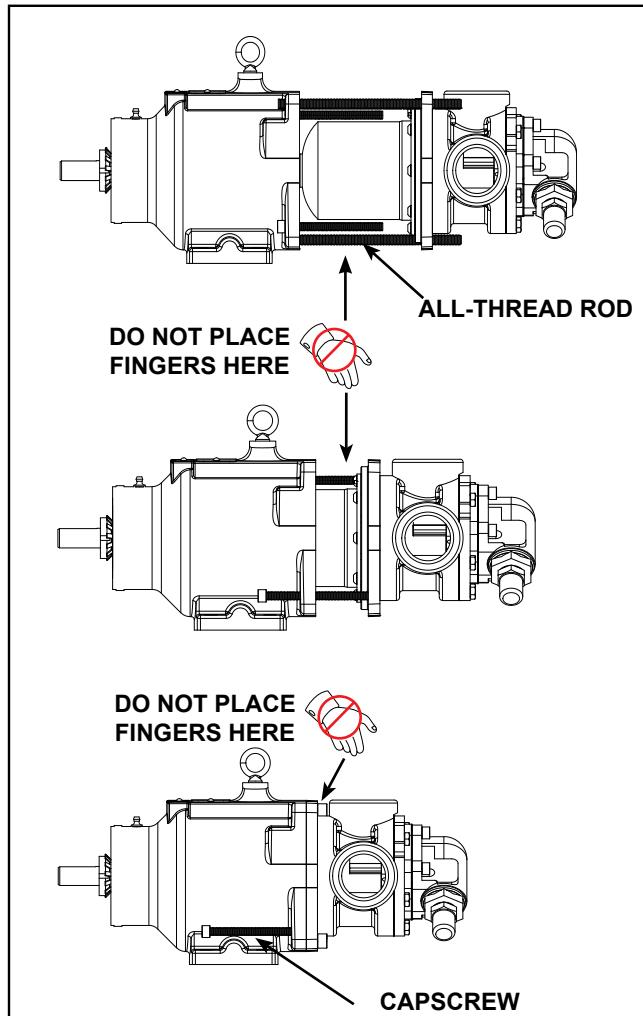

FIGURE 13
Do not place fingers onto the front of pump mounting flange. Align the canister into bore of the bracket and gently slide it in. When the magnets start to engage, the unit will finish engagement on its own very rapidly unless the 5/16" x 4" capscrew is properly used. Make sure fingers are not on the front of the pump. See Sequence in Figure 13.
15. Insert two fully threaded 5/16" X 4" socket head capscrews into the bracket until they are fully extended in front of the bracket to control assembling the pump, see **Figure 13** on page 9. To keep the pump and bracket assemblies properly aligned and for additional safety, it is recommended to use 2 lengths of all-thread rod (6-8") threaded into diagonal capscrew locations in the bracket and slide through the corresponding holes in the adaptor plate.